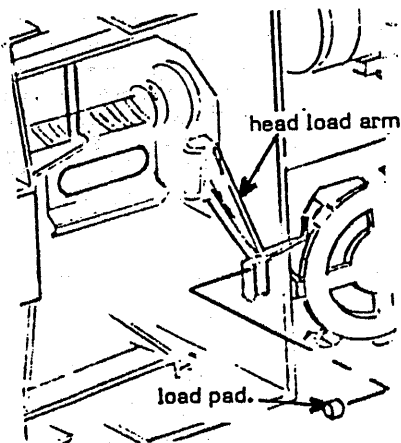

FIG. 3-22 HEAD LOAD PAD REPLACEMENT
3. Lift and hold head load arm out away from head.(Fig. 3-22)